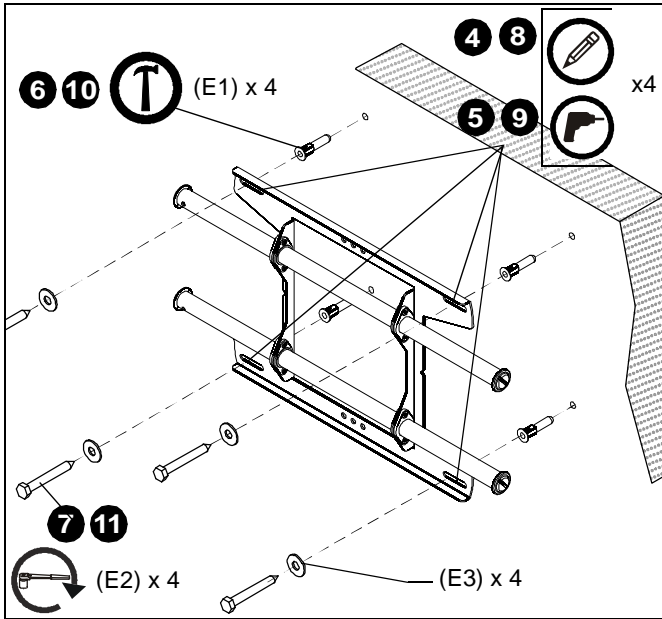

Figure 4
- Using a level, mark the wall through both upper mounting slots. (See Figure 4)
8. Mark the attachment points for the lower mounting slots. (See Figure 4)
9. Drill one pilot hole at each marking for lower mounting holes. (See Figure 4)
11. Use two 5/16 x 2-1/2" lag bolts (E2) and two 5/16" flat washers (E3) to attach the mount to the wall through the lower mounting holes. (See Figure 4)